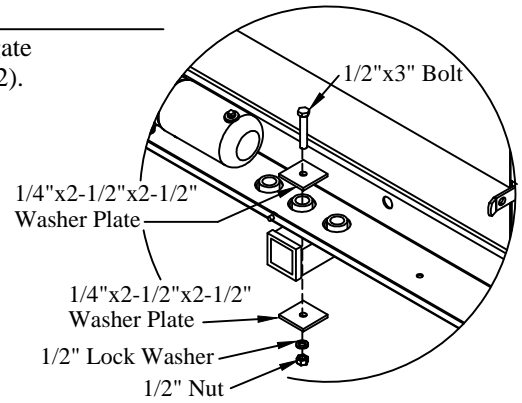

Figure 22: Lower bracket support (Class 4 hitch).
1. **Assemble** the supplied hardware through the center hole in the bottom of the liftgate mainframe and the center hole in the factory hitch plate on the truck (Figure 22).